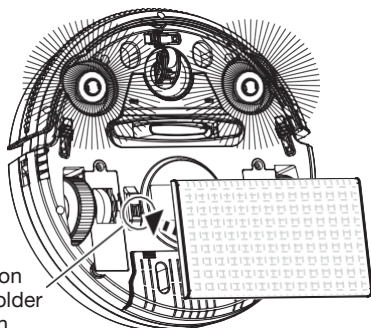

Fig. 7
4. Aim the 2 bolts of the dusting paper holder at the 2 holes (inside the 2 big wheels) and click the holder on the bottom of the cleaner. (Fig. 7)